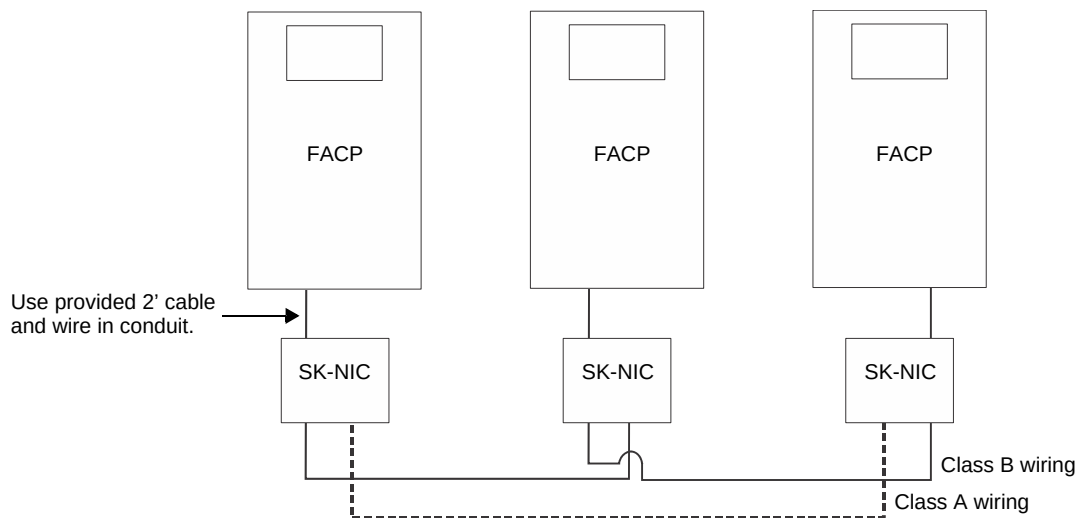

Figure 5.1 External SK-NIC Wiring Option
When linking in a group of 6700 panels, you must use the SK-NIC to link the panels together. See Figure 5.1 for external mounting of SK-NIC option.
2. Use the 6-pin cable included with SK-NIC to connect the 6700 to the SK-NIC. The 6-pin cable must be run in conduit between cabinets. Refer to Figure 5.1.